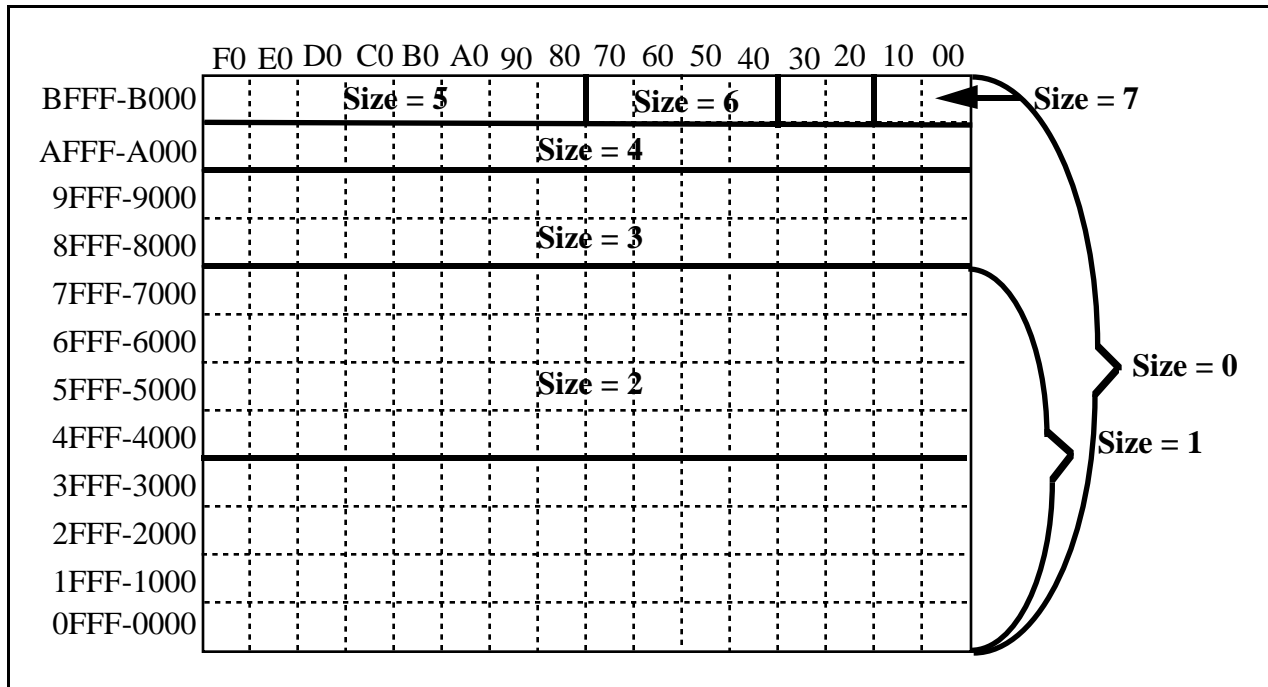

Figure 5-12. A16 Space Allocations for all Size Values
1. Identify the RM Mainframe and the MXIbus levels of your system. Determine the amount of A16 space required by each MXIbus device. See Figure 5-12 and Table 5-4.